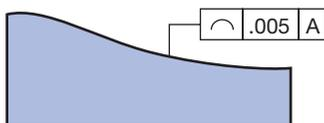

Figure A-90 Drawing for question 1.
1. Explain the profile tolerance shown in Figure A-90.